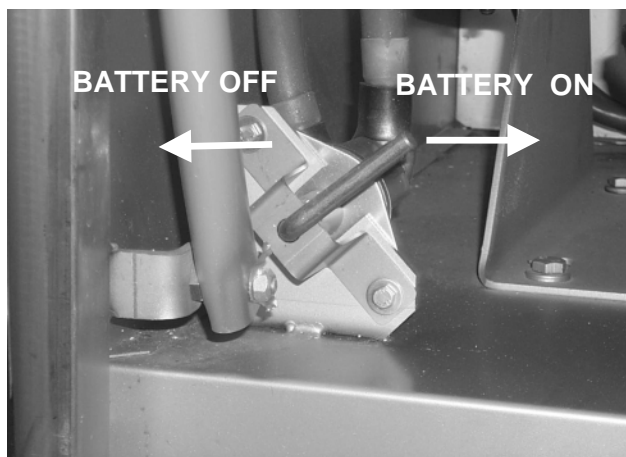

Figure 3: C2045 battery disconnect switch ON and OFF positions
- 3) To disconnect the batteries, turn the switch lever to the left (see Figure 3). There is no need to remove the lever from the switch.
- 4) To reconnect the batteries, turn the switch lever to the right (see Figure 3).